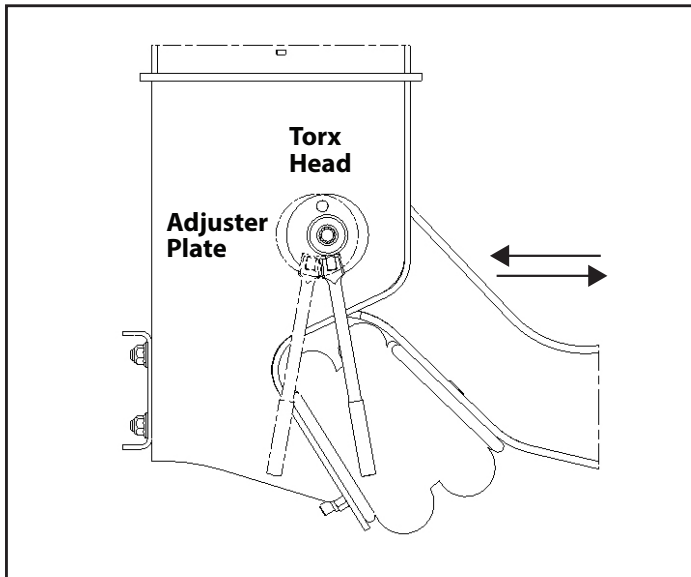

Figure 11.
2. Locate the adjuster plate at the pivot connection. Insert a 1/2"-shank breaker bar into the square hole of the adjuster plate. Push on the breaker bar to move the beam forward or backward until the axle reaches the alignment measurements (Figure 11).